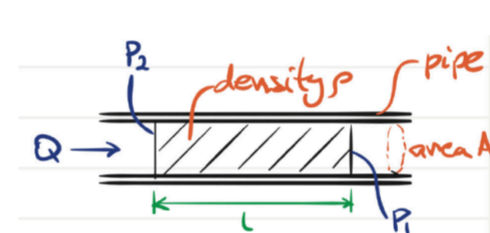

Figure flu.1: a section of pipe for deriving its inertance.
- The inertance I for a uniform pipe can be derived, as follows, with reference to the sectioned pipe of Fig. flu.1. For an incompressible fluid flowing through a pipe of uniform area A and length L , with uniform velocity profile (a convenient fiction), an element of fluid obey's Newton's second law, from which several interesting equalities can be derived: